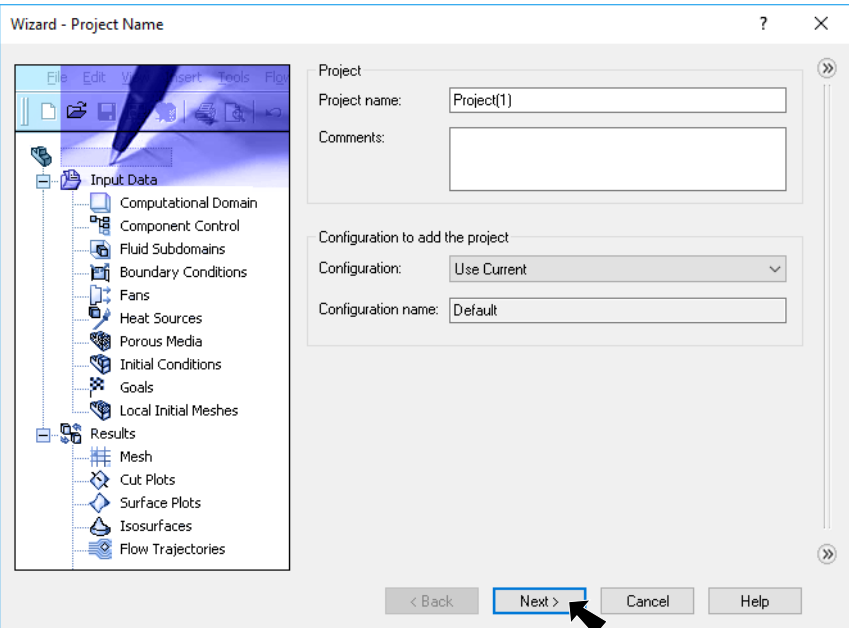

Fig. 2
Step 3. Use **Project(1)** for Project name, Fig. 2.